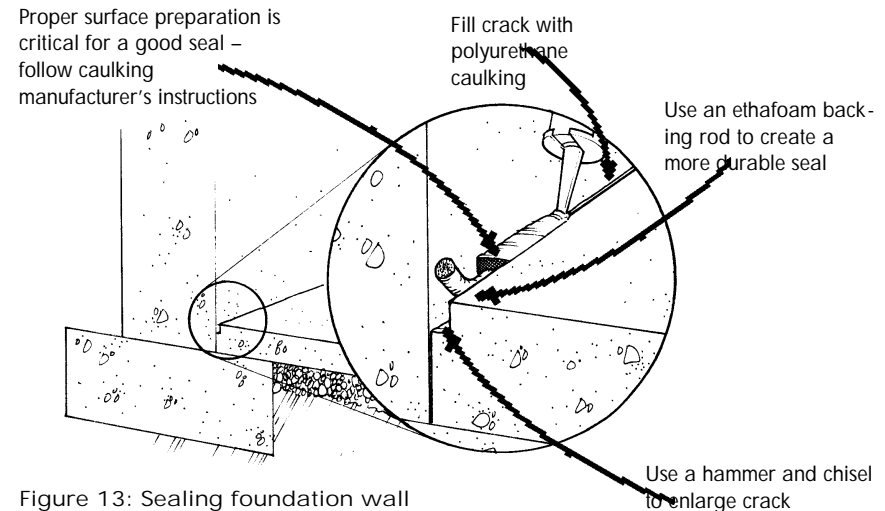
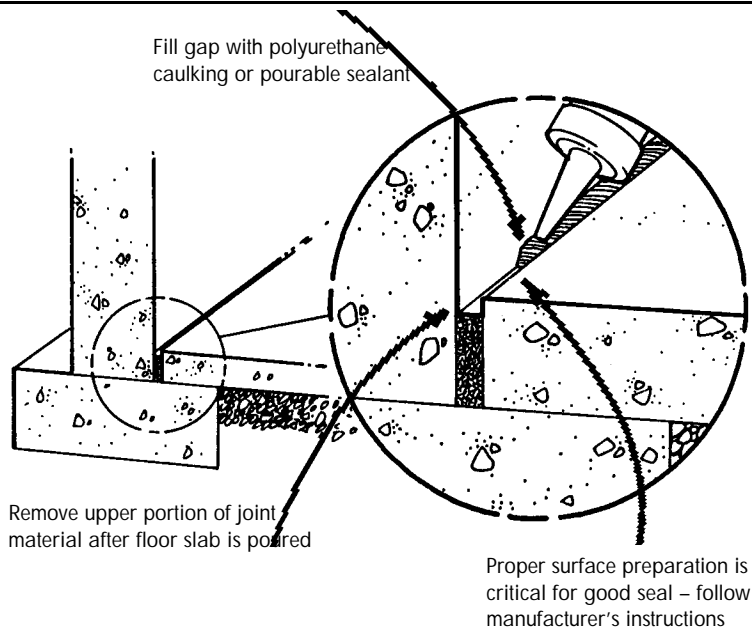

Figure 13: Sealing foundation wall and basement floor joint
Figure 16: Seal foundation wall and basement floor joint in new construction
If accessible, the joint between the foundation wall and basement floor can be sealed (see **figure 13**). The gap around utility penetrations (e.g. water, sewer, electrical, natural gas, fuel oil) in wall and floors can be sealed in a similar manner.
- Seal the basement floor/foundation wall crack. There are several options for sealing this potential radon entry point (see **figure 13, page 19** and **figure 16, page 24**). Note that proper preparation of surfaces to be caulked is critical to obtain an effective, long-lasting seal.